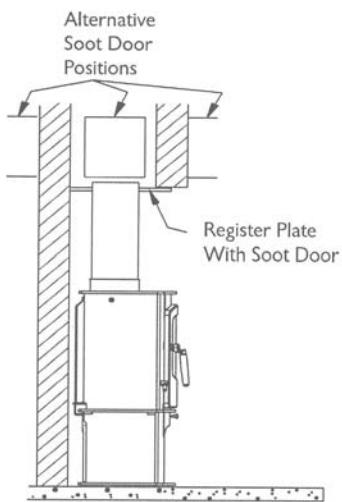

Fig 7: Horizontal register plate with top flue connection
**Chimneys should be as straight as possible. Horizontal runs should be avoided and not exceed 150mm (6 inches) in length.** Refer to the typical installation diagrams, Fig 7 & 8. Flue connections must be well sealed.
There are several ways of connecting the stove to the flue as shown in Figures 7-10. If the vertical rear flue is used, the chimney may be swept through the appliance. If it is not possible to pass the sweeps brush through the stove, a soot door will be necessary. This may be either in the actual brickwork of the chimney or fitted in the register plate. Various suitable positions of soot doors are shown in Figures 7 & 8.